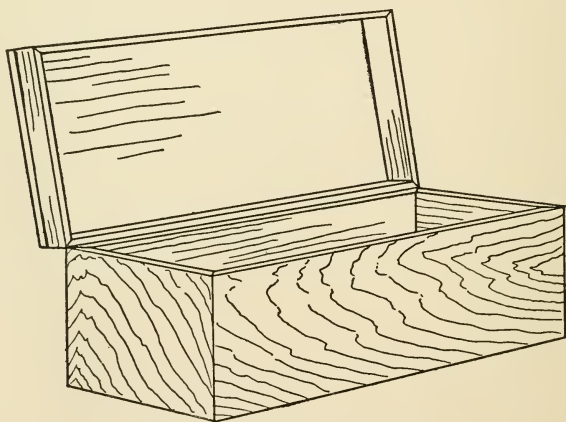

FIG. 178. — A Negative-case.
**A Wooden Case** to hold the envelopes is desirable, and such a one may be made similar to Fig. 178. For four-by-five negatives the inside of the box should measure twelve inches long, five and one-quarter inches wide, and three inches deep. It will hold about six dozen negatives.